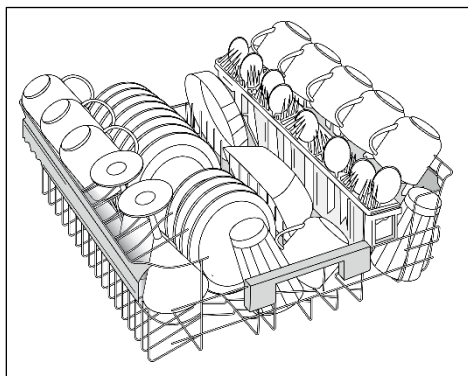

Figure 1
- The inlet hose must be connected to a tap so that the water supply can be cut off when the machine is not in use (fig. 1 B).
2. Hold the basket on both sides and lift it upwards (fig. 1).
1. Hold the basket on both sides and lift it gently upwards (fig. 1);
A standard daily load is represented in fig. 1
- To remove the filter unit, simply turn the handle anticlockwise (fig. 1).